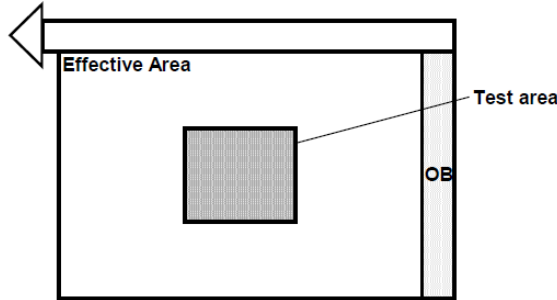

Figure 1. Saturation signal and Sensitivity test area.
- 3 ) See figure 1 below for the Test area
- 3) See figure 1 below for the Test area